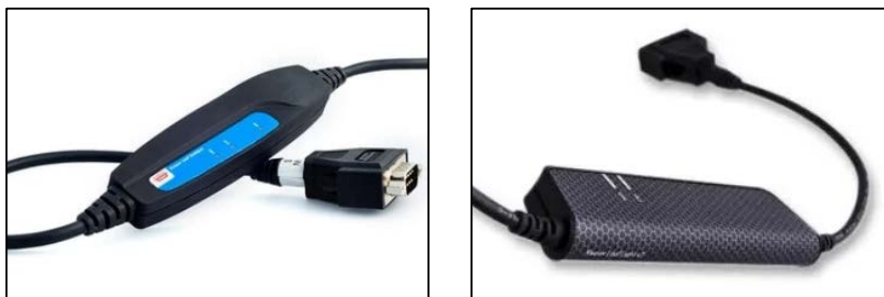

Figure 6-5. Kvaser Leaf Light HS USB to CAN(Left) and Leaf Light V2 HS USB to CAN(Right)
1. With the ignition key in the OFF position, connect the communication cable from a USB port on the computer to the CAN communications cable on the engine. (Figure 6-5)